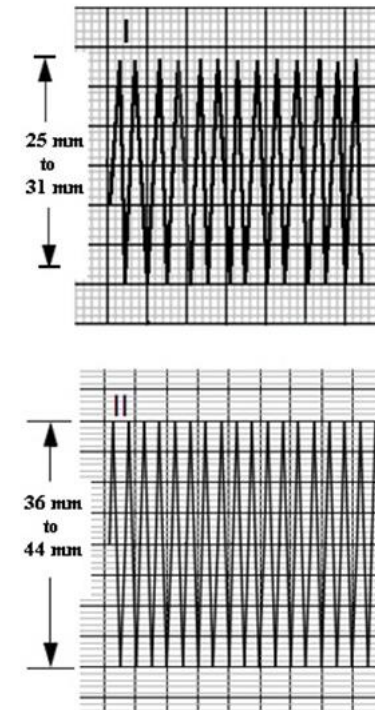

Figure 1.11: ECG Gain at Lead I and Lead II
4. Print five seconds of ECG Lead I, and confirm the printed signal amplitude is 25 mm to 31 mm, peak-to-peak as shown in Figure 1.11.
6. Print five seconds of ECG Lead II, and confirm the printed signal amplitude is 36 mm to 44 mm, peak-to-peak as shown in Figure 1.11.